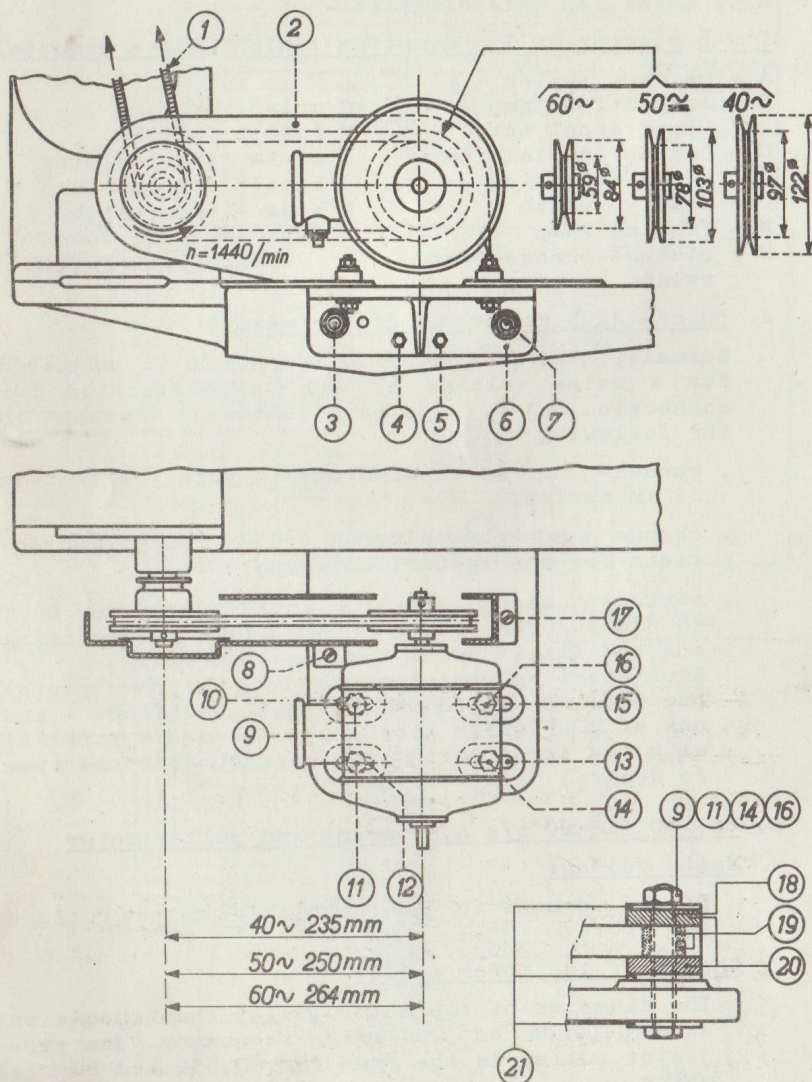

Fig. 8
The various motor pulleys and the approximate distances "centre of projector pulley - centre of motor pulley" are indicated in fig. 8.
Mounting of motor bracket and motor (fig. 8)
- . Fix the motor provisionally with bolts "9", "11", "14" and "16" (in fig. 8 is: "18" = spacing piece, "19" and "20" = four rubber rings, "21" = three washers).
- Lay belt "1" (fig. 8) over the pulley of the speedometer and over the small pulley at the rear of the projector pulley.